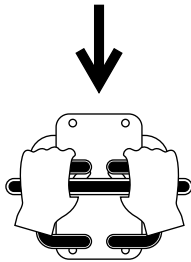

Figure 8
- To move rearward, move both traction controls rearward (Figure 8).